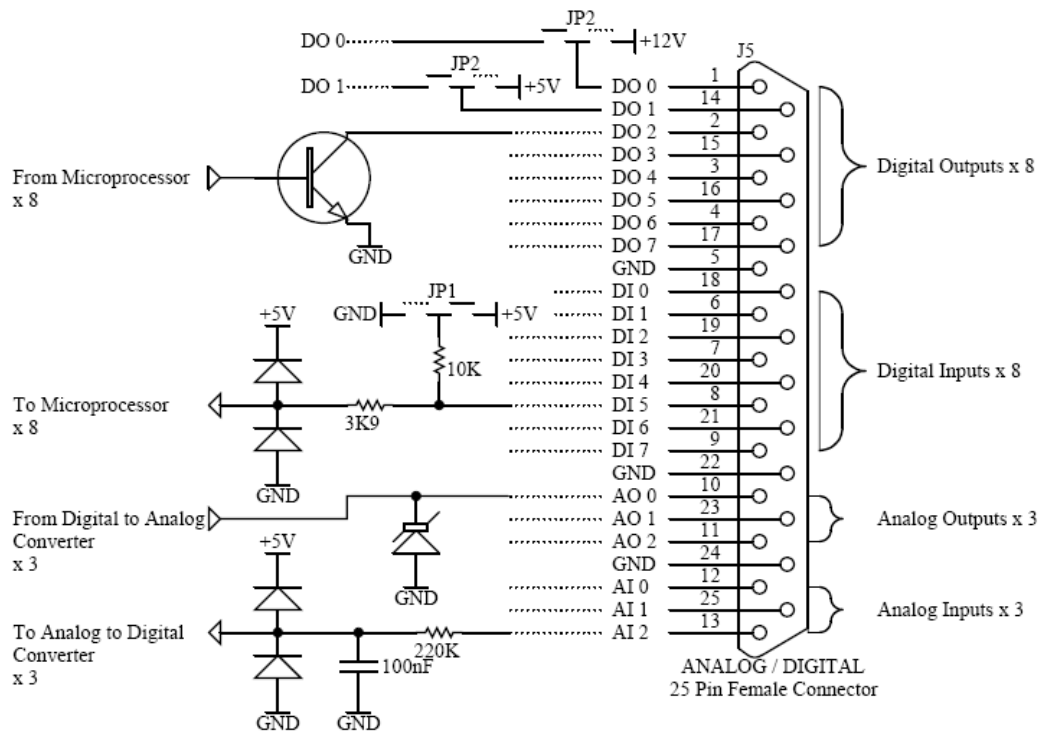

Figure 11 – External 25 pin I/O individual pin descriptions
2. Connect one of the master devices digital output signal to pin 18 and the ground signal to pin 5 of the analyser's analog/digital 25 pin female connector (refer to Figure 11).
Assign the digital outputs 0-7 (refer to Figure 11 for pinouts).